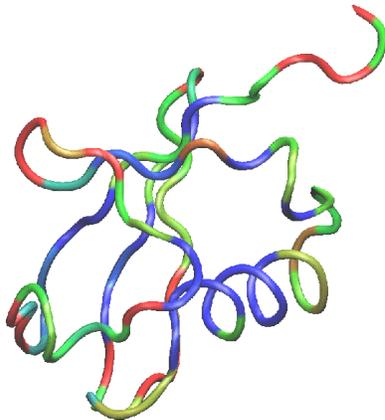

Figure 9: Ubiquitin colored by the average RMSD per residue. Red denotes more mobile residues, and blue denotes residues which moved less during equilibration.
- \* **10** Choose the Graphics → Colors... menu item. Choose the Color Scale tab. In the Method pull-down menu, choose `BGR`. Your figure should now look similar to Fig. 9.